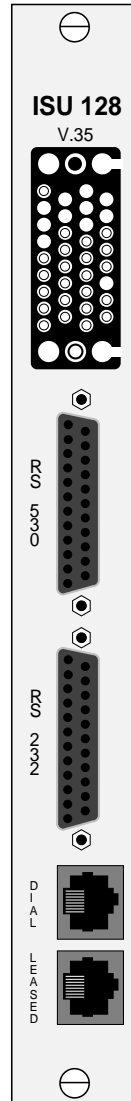

Figure 1-2
The ISU 128 Rackmount has two RJ45 jacks available on the rear panel for network connection (see Figure 1-2). The U-interface jack labeled **DIAL** is for Basic Rate ISDN. ISDN Basic Rate Service divides a standard telephone line into three digital channels capable of simultaneous voice and data transmission. The three channels are comprised of two Bearer (B) channels at 64 kbps and one Data (D) channel at 16 kbps (also known as 2B+D).
Before the ISU 128 Rackmount can be configured, the board must be selected. To select the ISU using the DATAMATE, the proper board and slot must be entered. Once this is done, the display will change to show the front panel display of the ISU 128 Rackmount. Figure 1-2 is an illustration of the ISU 128 Rackmount front panel.